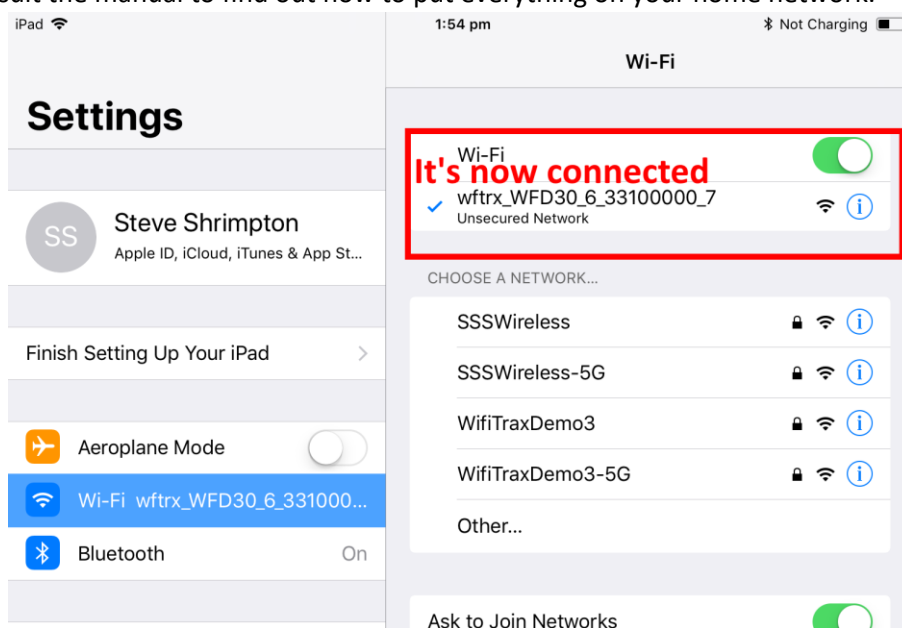

Figure 6 The iPad has connected to the WFD-30 Wi-Fi Access Point
- (6) No password is required and after a few moments you should see that it has connected as in Figure 6. The left-hand menu shows Wi-Fi wftrx_WFD30_6_XXXXXXX_7. You will not be able to access the internet while you are connected to the Wi-Fi access point of the WFD-30, but consult the manual to find out how to put everything on your home network.